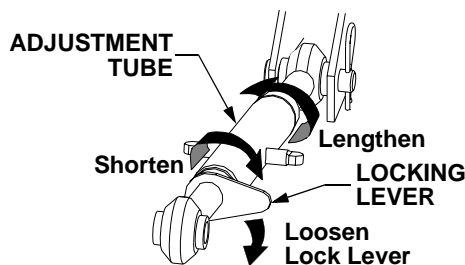

Figure 26
- The length of the upper hitch link is normally determined by the design of each implement. To adjust the upper hitch link, loosen the locking lever and turn the adjustment tube as shown in Figure 26. After the appropriate length is attained, tighten the locking lever. If correctly adjusted, the upper hitch link will be parallel or nearly parallel to the lower hitch links.